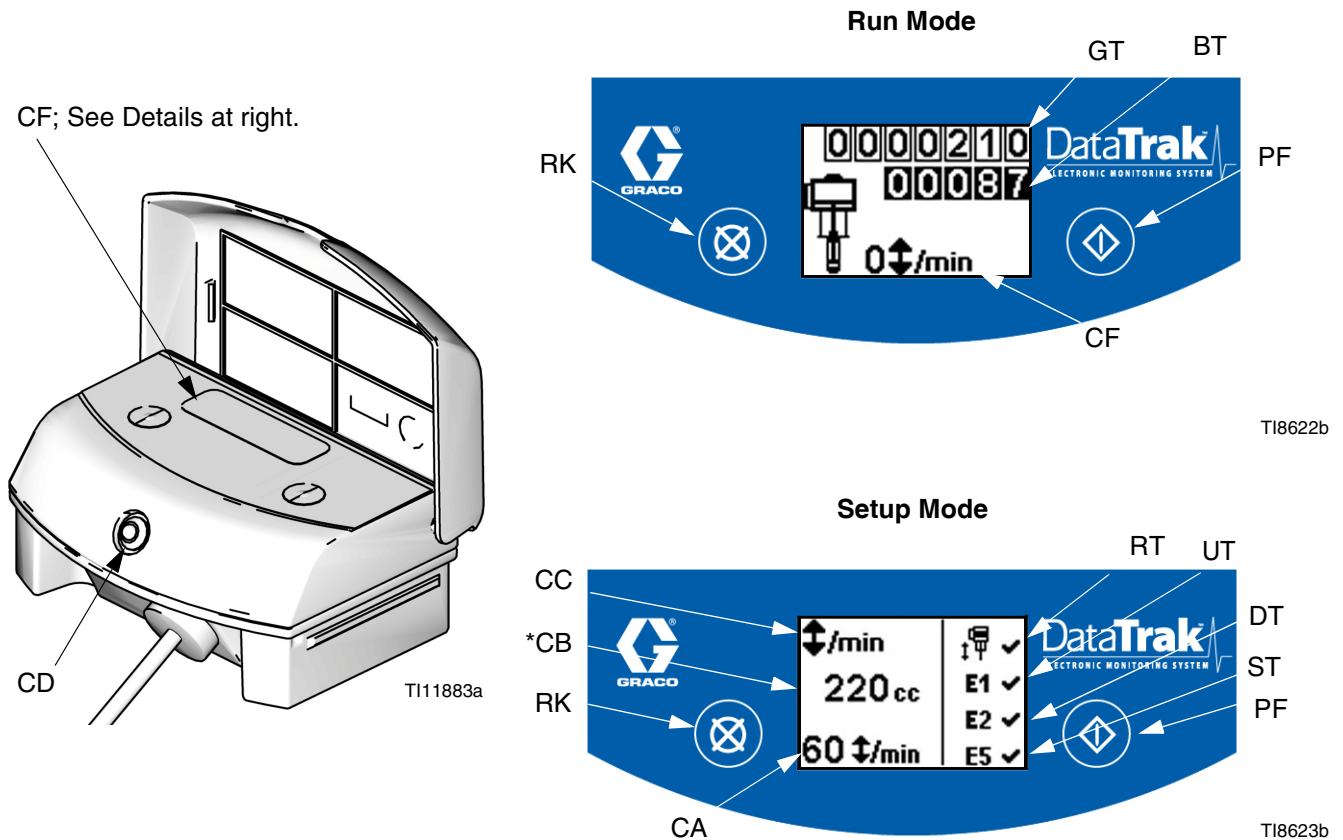

FIG. 31. DataTrak Controls and Indicators
NOTE: See FIG. 31. The display (Y) will turn off after 1 minute of inactivity in Run mode or 3 minutes in Setup mode. Press any key to wake up the display. DataTrak will continue to count cycles when display is off.
1. See FIG. 31. Press and hold  for 5 seconds until Setup menu appears.
NOTE: When runaway, E1, E2, and E5 error options are enabled, a ✓ will appear on the setup screen. See FIG. 31.
1. See FIG. 31. If pump runaway occurs, the runaway solenoid will actuate, stopping the pump. The LED (CD) will flash and the display (CF) will indicate a runaway condition (see Table 1). The display will cycle through six instruction screens.
2. Runaway Screens 1 and 2: To reset the runaway solenoid, close the master air valve (AP). Wait for air to completely bleed off the air motor.
3. Runaway Screens 3 and 4: After the air is bled off, push the solenoid release button (J) down to reset the air valve. The button will pop back up when the air valve is repressurized.
5. Open master air valve (AP) to restart pump.
NOTE: To disable runaway monitoring, go to setup mode and set runaway value (CA) to 0 (zero) or disable (RT)  (see FIG. 31).
1. See FIG. 31. To enter Prime/Flush mode, press any key to wake up the display, then press . The Prime/Flush symbol will appear in the display and
See FIG. 31. The last digit of the batch totalizer (BT) represents tenths of gallons or liters. To reset the totalizer, press any key to wake up the display, then press and hold  for 3 seconds.
See FIG. 31. The display (CF) will turn off after 1 minute of inactivity in Run mode or 3 minutes in Setup mode. Press any key to wake up the display.
DataTrak can diagnose several problems with the pump. When the monitor detects a problem, the LED (CD, See FIG. 31) will flash and a diagnostic code will appear on the display. See Table 1.